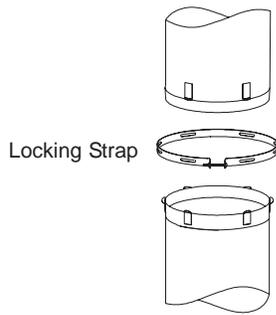

Figure 4
1. Begin by removing the Locking Strap from the vent. (See Fig 4)